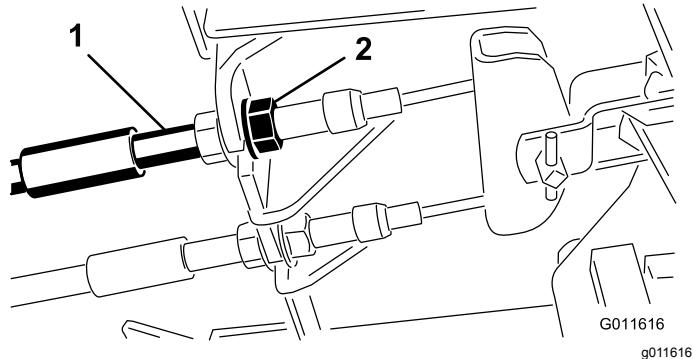

Figure 63
1. To reduce free travel of the brake pedals, tighten the brakes by loosening the front nut on the threaded end of the brake cable (Figure 63).